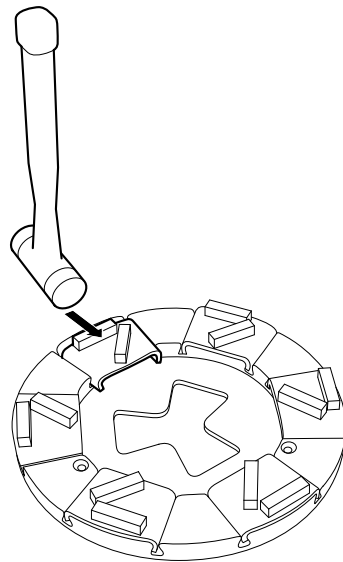

Figure 4-11 Removing grinding tools
1. Remove the grinding tool by giving it a few light taps with a rubber hammer so the locking mechanism releases, see Figure 4-11 on page 22. Then draw the tool up out of the guide slot.